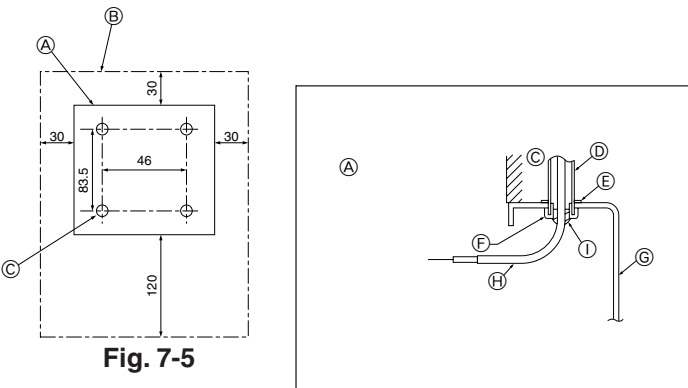

Fig. 7-5
(1) Select an installing position for the remote controller. (Fig. 7-5)